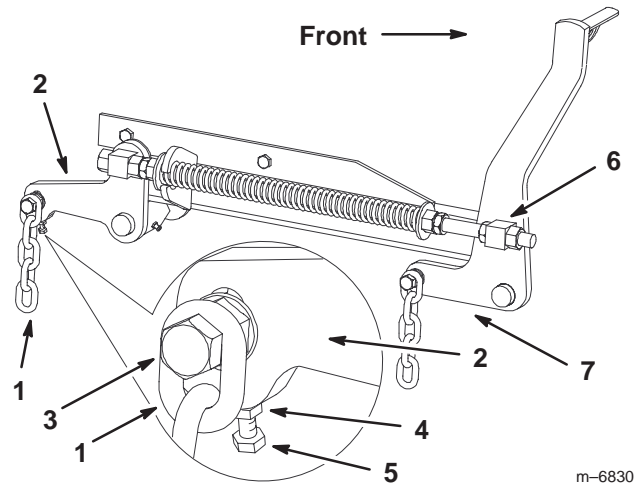

Figure 68
7. If the measurements at positions **B** or **C** are not correct, loosen the bolt attaching the rear chain to the rear support arm (Fig. 68).